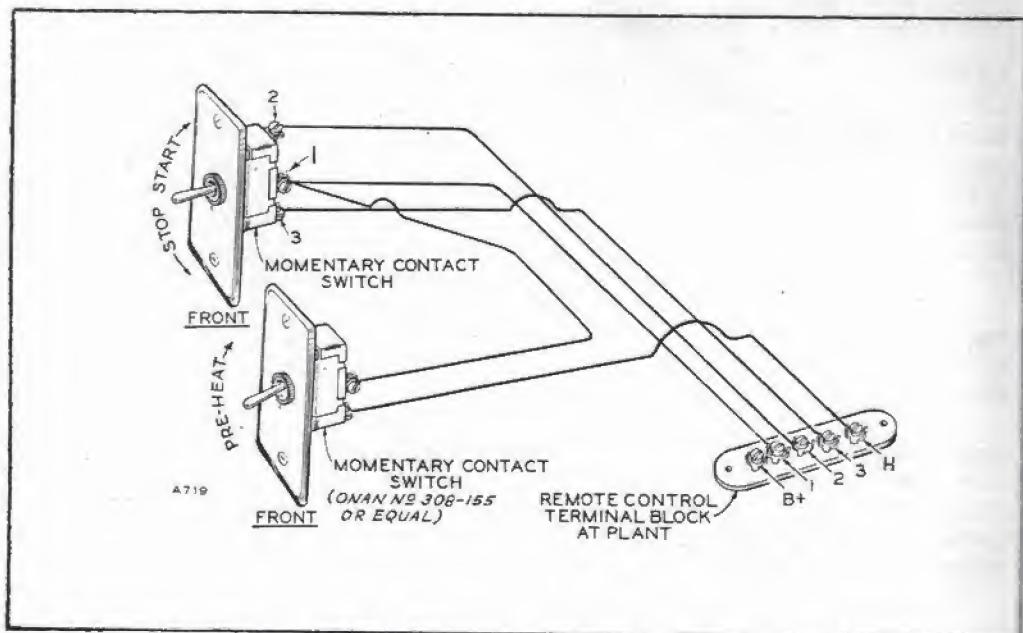

Fig. 4 Remote Start-Stop and Preheat Switches
**REMOTE START-STOP SWITCH (Optional).** - For remote control of starting and stopping ("Remote" type plant) use 3 wires to connect a remote switch (SPDT, momentary contact, center off type) to the terminal block marked B+, 1, 2, 3 in the plant control box. For MDJA models, use #18 wire up to 75 feet, #16 wire up to 120 feet, #14 wire up to 180 feet, and #12 wire up to 305 feet. For MDJB and MDJC models, use #18 wire up to 65 feet, #16 wire up to 100 feet, #14 wire up to 150 feet, and #12 wire up to 280 feet. See figure 4.